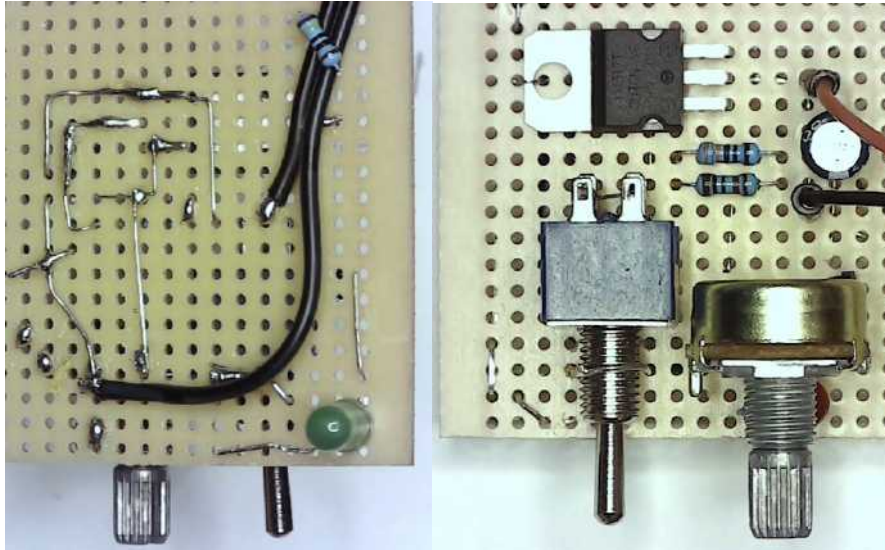

Figure 9. A compact layout of the power supply in the bottom right corner of your board.
And consider the big picture, where will future projects fit, to manage our board's 4"x6" real estate and ergonomics. I suggest following the approximate layout of Fig. 9, compactly building the power supply in the bottom left corner.
10. Solder is a weak metal and should not generally be relied upon for mechanical stability. Power and any other wires coming onto or off a board should include a "strain relief" so a moderate accidental yank on the cord won't be transmitted to the more fragile circuit. The resistor on the top in Fig. 9 has been hijacked for this purpose. It's not connected to anything on the other side of the board but itself, squeezing the power cable against the board.